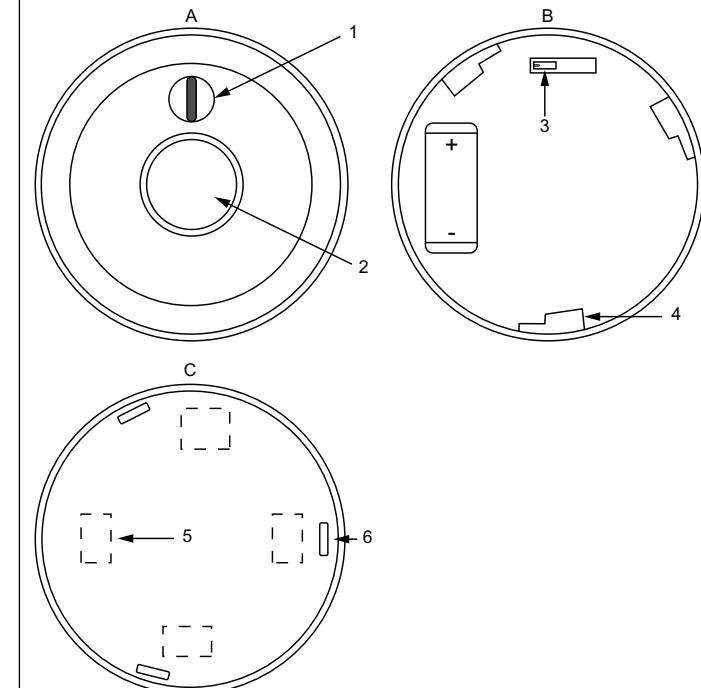

Figure 2 . A = Main body, front, B = Main body, back, C = Back cover
- Break through the knockouts on the inside of the back cover. See Figure 2.